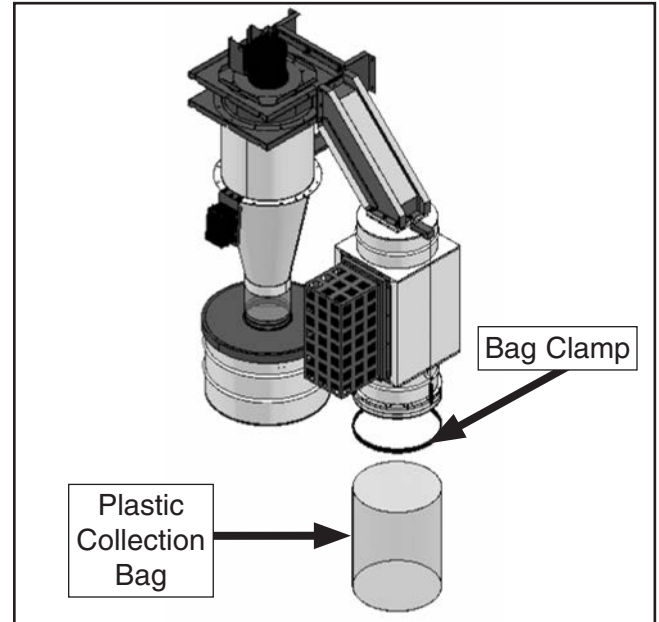

Figure 23. Installing collection bag under HEPA filter.
- Slip plastic collection bag around opening under canister filter, and secure with metal bag clamp (see **Figure 23**).